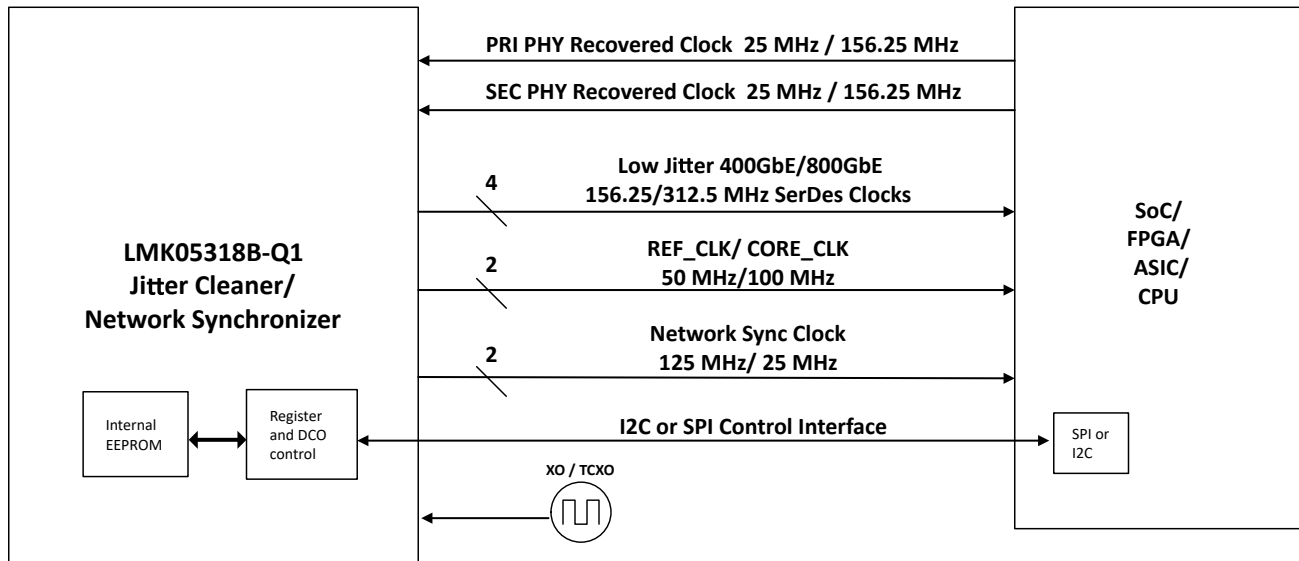

Figure 8-4. Typical System Block Diagram
Figure 8-4 shows an example system block diagram to help implement the LMK05318B-Q1 and the peripheral circuitry of the device. For the recommended power supply filtering scheme, refer to the LMK05318BEVM user's guide. For the recommended input and output terminations, refer to Clock Input Interfacing and Termination and Clock Output Interfacing and Termination.
- For a 3.3V LVCMOS driver, follow the OSC clock interface example in Figure 8-4. Power the OSC from a low-noise LDO regulator or optimize the power filtering to avoid supply noise-induced jitter on the XO clock.
- Reference inputs: Follow the LVCMOS or differential clock input interface examples in Figure 8-4 or in Clock Input Interfacing and Termination.
- Clock output Interfacing: Follow the single-ended or differential clock output interface examples in Figure 8-4 or in Clock Output Interfacing and Termination.